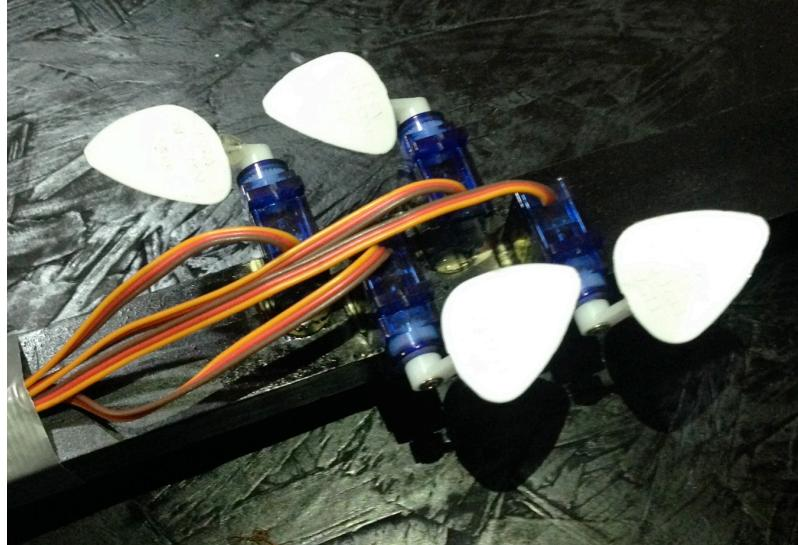

Figure 7
24. Glue stepper motors to the bottom of a 20"x1"x1" piece of pine so they are directly above the strings as shown in Figure 7.